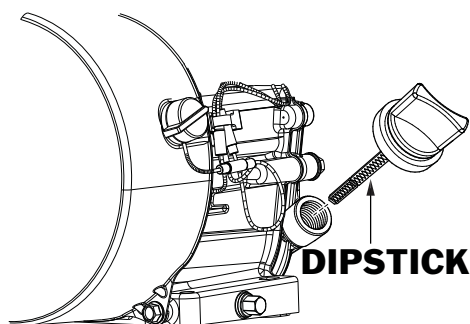

Figure 9. Engine Oil Dipstick
2. Remove the filler dipstick from the engine oil filler hole (Figure 9) and wipe clean.